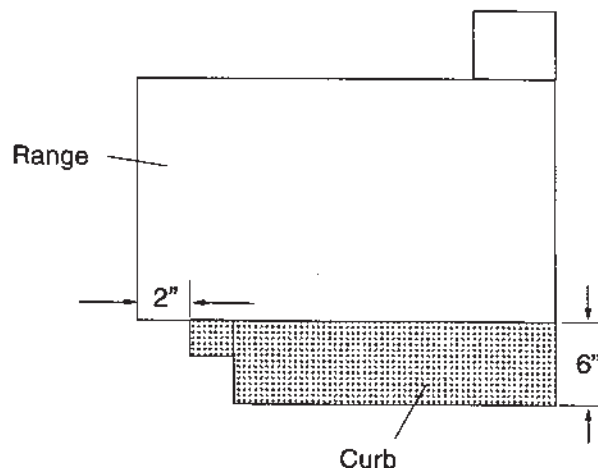

Fig. 2-3
- b. Position oven range on curb as shown in figure 2-3.
- a. Existing curb must be ventilated as shown on metal curb in Figure 2-3. The opening for circulation must equal 8 square ft. (0.74 square meters).